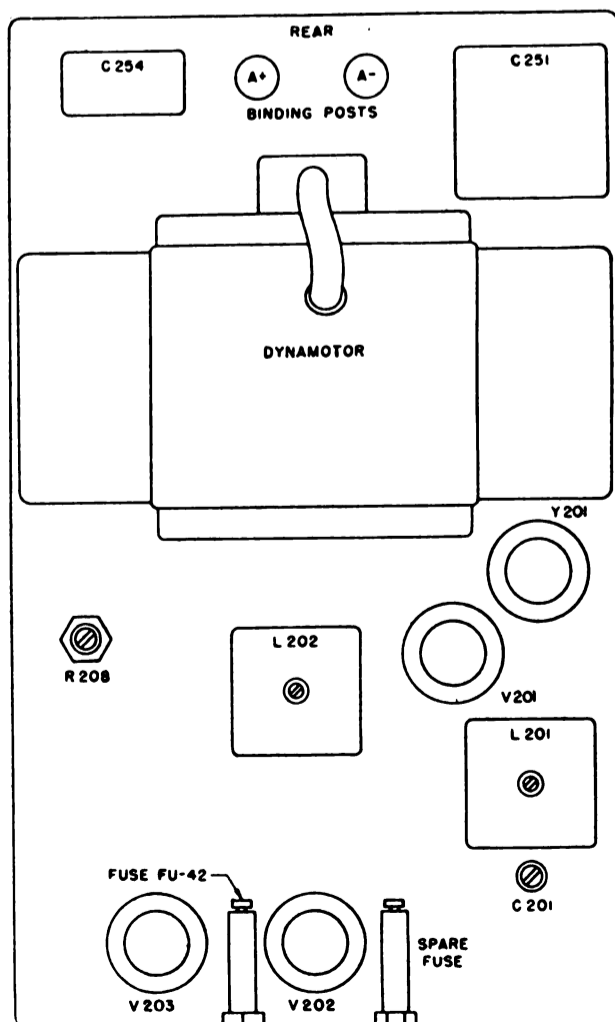

Figure 14. Crystal-frequency-calibrator unit alignment points, Radio Receiver BC-652-A.
a. CRYSTAL - FREQUENCY - CALIBRATOR ALIGNMENT POINTS. Crystal - frequency - calibrator alignment points are shown in figure 14. Use an insulated aligning screw driver when making adjustments.
b. ADJUSTMENT OF CAPACITOR C201. (1)